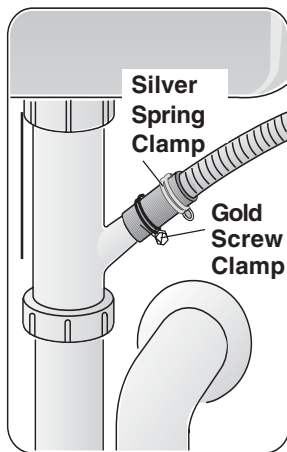

Figure 23
- 1 Directly to the undersink dishwasher drain connection, as shown in **Figure 23**.